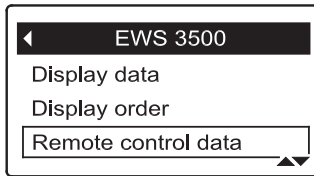

FIG. 69
3. Press the DOWN (▼) button to scroll through the menu options until **Remote control data** is highlighted in a box (See Figure 69).
8. When selections are complete, exit this menu by pressing the LEFT (◀) button. The display will go back to the device menu (Figure 69).